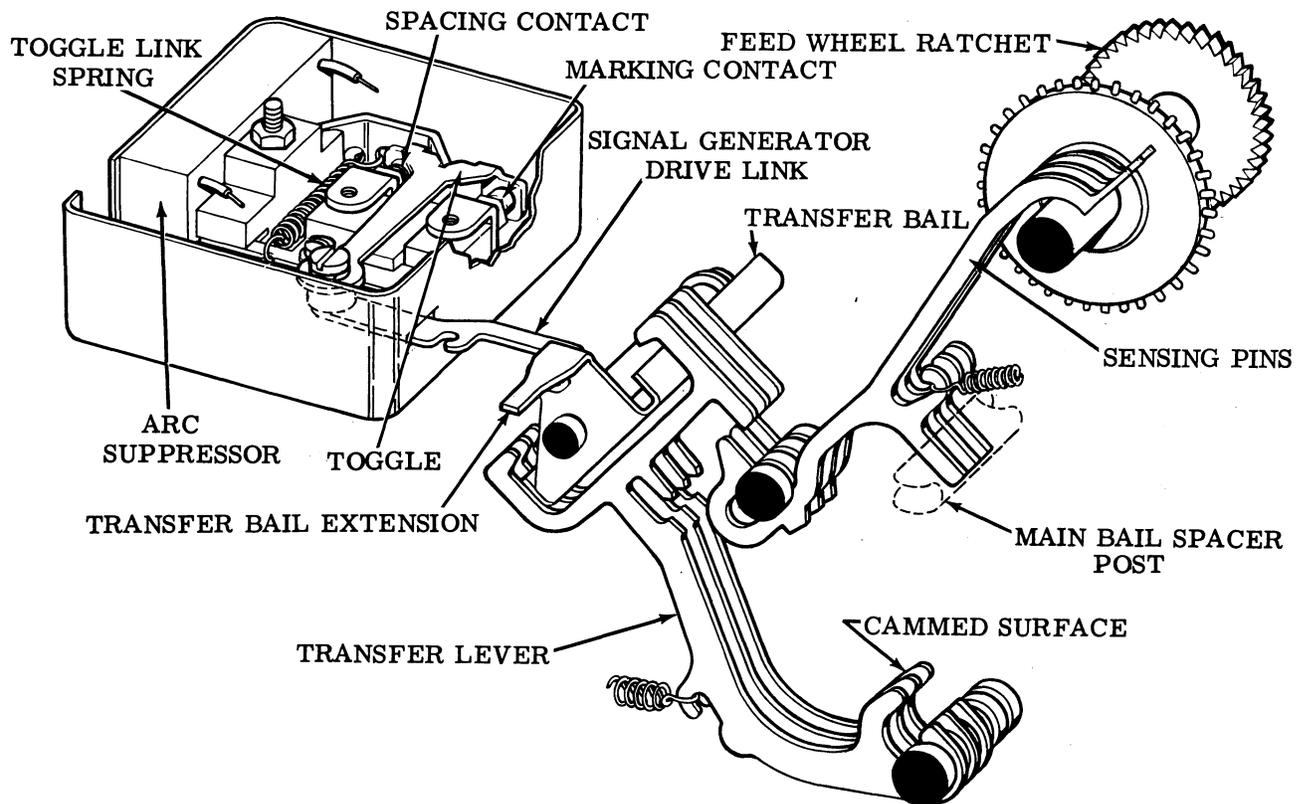
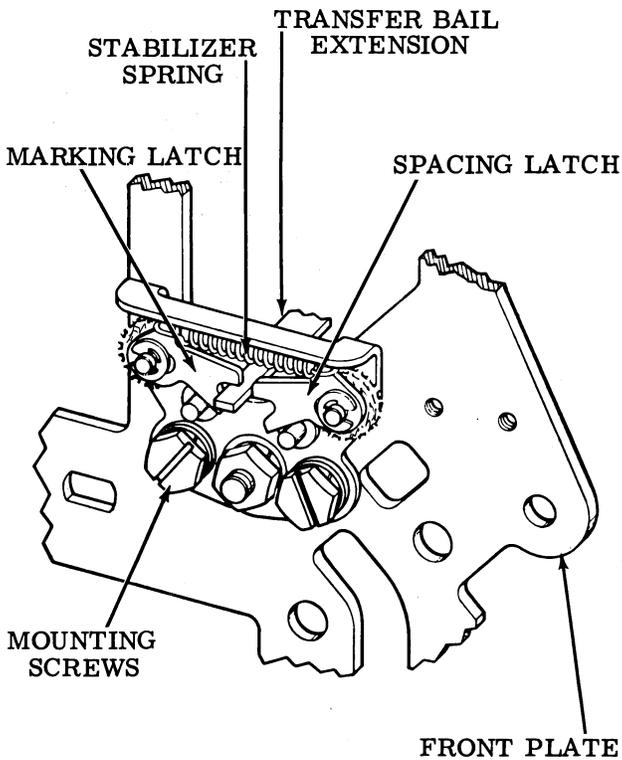

Figure 12 - Transfer Lever and Signal Generator Mechanisms
Figure 13 - Transfer Bail Stabilizer
4.08 Further rotation of the main shaft moves the lobe of the start cam into position so it cams its respective transfer lever. Since the start transfer lever has no sensing pin, the lever is always in the spacing position. The start transfer lever upper finger hooks the upper side of the transfer bail and causes it to pivot clockwise. The transfer bail extension (Figure 12) moves the signal generator drive link causing the toggle to open the marking contact and close the spacing contact in the signal generator contact assembly. The extension, in moving to the spacing position, forces the marking latch on the stabilizer (Figure 13) out of its way and continues its travel far enough to let the spacing latch fall into the latching position simulating a detent action.